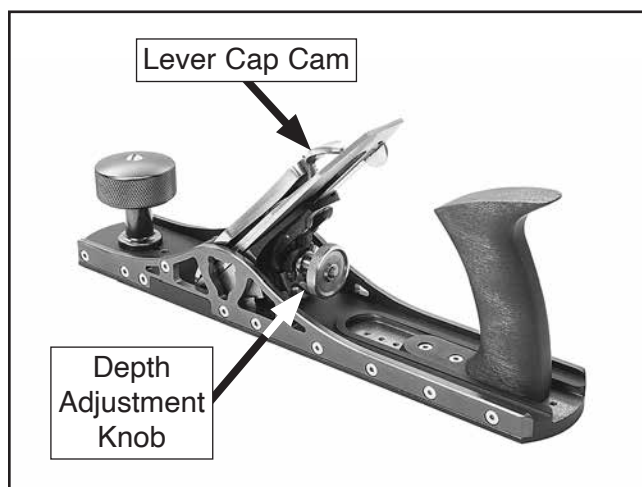

Figure 4. Blade depth components.
1. Open lever cap cam (see **Figure 4**).
2. Rotate depth adjustment knob (see **Figure 4**) clockwise to lower blade, or counterclockwise to raise blade.
3. Close lever cap cam (see **Figure 4**).